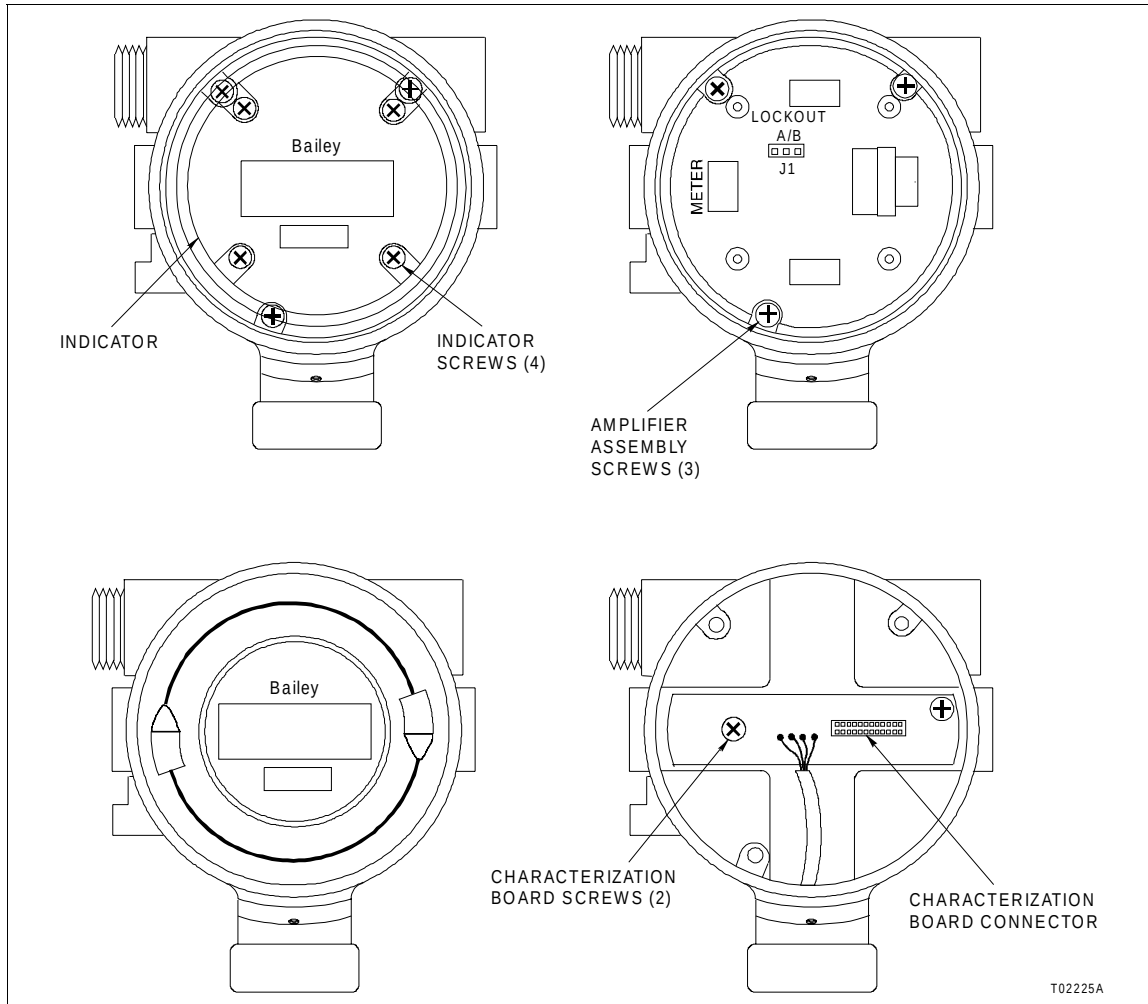

Figure 7-2. Internal Components
3. Use the Phillips screwdriver to remove the three amplifier assembly screws (Fig. 7-2).
4. Gently pull the amplifier assembly out of the electronics housing to unplug it from the characterization board connector (Fig. 7-2). Remove the two characterization board screws (Fig. 7-2).
11. Mount the characterization board to the electronics housing and install the two characterization board screws (Fig. 7-2).
12. Align the rectangular opening on the bottom of the amplifier assembly with the characterization board connector (Fig. 7-2) and install the amplifier assembly into the electronics housing. Gently press it down to seat the mating connectors.
13. Install the three amplifier assembly screws (Fig. 7-2).
2. Install the four indicator screws (Fig. 7-2).